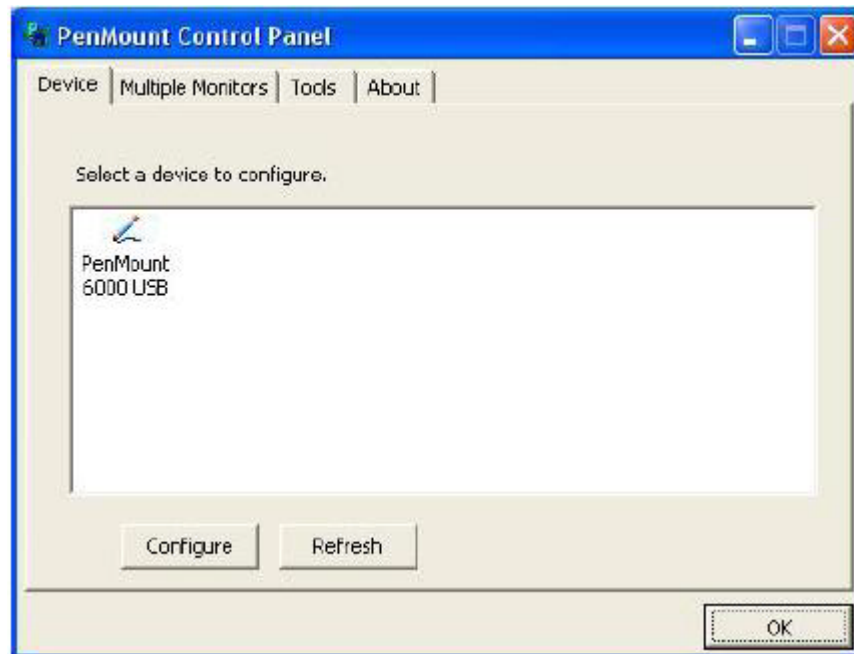

Figure 7-9: Configuration Screen
Step 6: The configuration screen in Figure 7-9 appears.
Step 7: Double click the PenMount 6000 icon as shown in **Figure 7-9**.